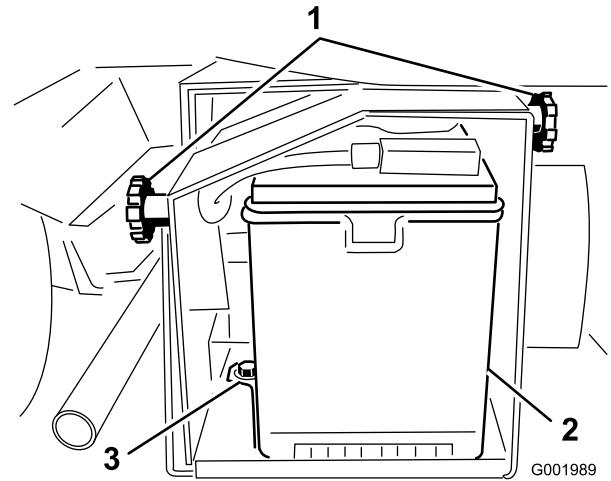

Figure 57
2. Loosen the knobs on the sides of the battery box and remove the battery cover (Figure 57).
5. Remove the battery retainer and fasteners (Figure 57).
2. Install the battery retainer and secure it with the fasteners you removed previously (Figure 57).
4. Install the battery cover and secure it with the 2 knobs (Figure 57).
1. Loosen the knobs on the sides of the battery box and remove the battery cover (Figure 57).